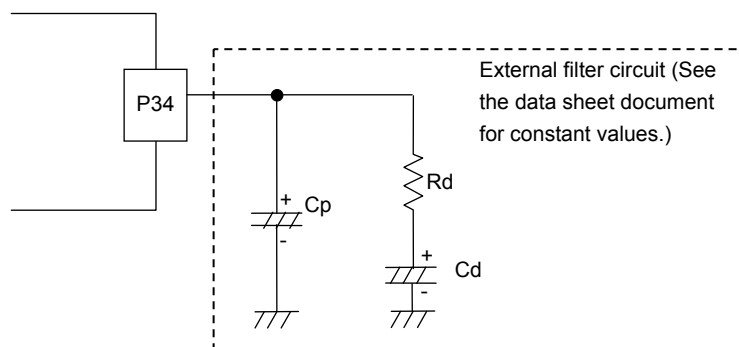

Figure 3.19.3 External Filter Circuit for the Internal PLL Circuit
- 1) This bit must be set to 0 together with VCOSTP and CMPSTP to generate the USB 48 MHz clock from the internal PLL circuit. In this case, P3DDR (FE4DH), bit 4 (P34DDR) and P3 (FE4CH), bit 4 (P34) must be set to 0. In addition, it is necessary to connect an external filter to the P34/UFILT pin as shown in Figure 3.19.3.